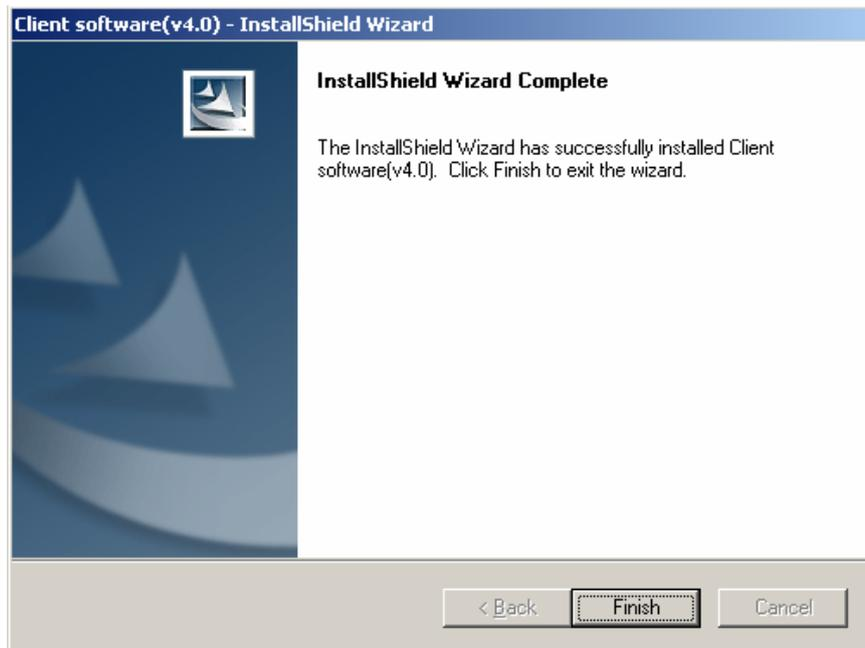

Fig2.7.7 Installation Complete
Step6: After finishing the installation, the installation completed dialog box will popup as Fig.2.7.7.